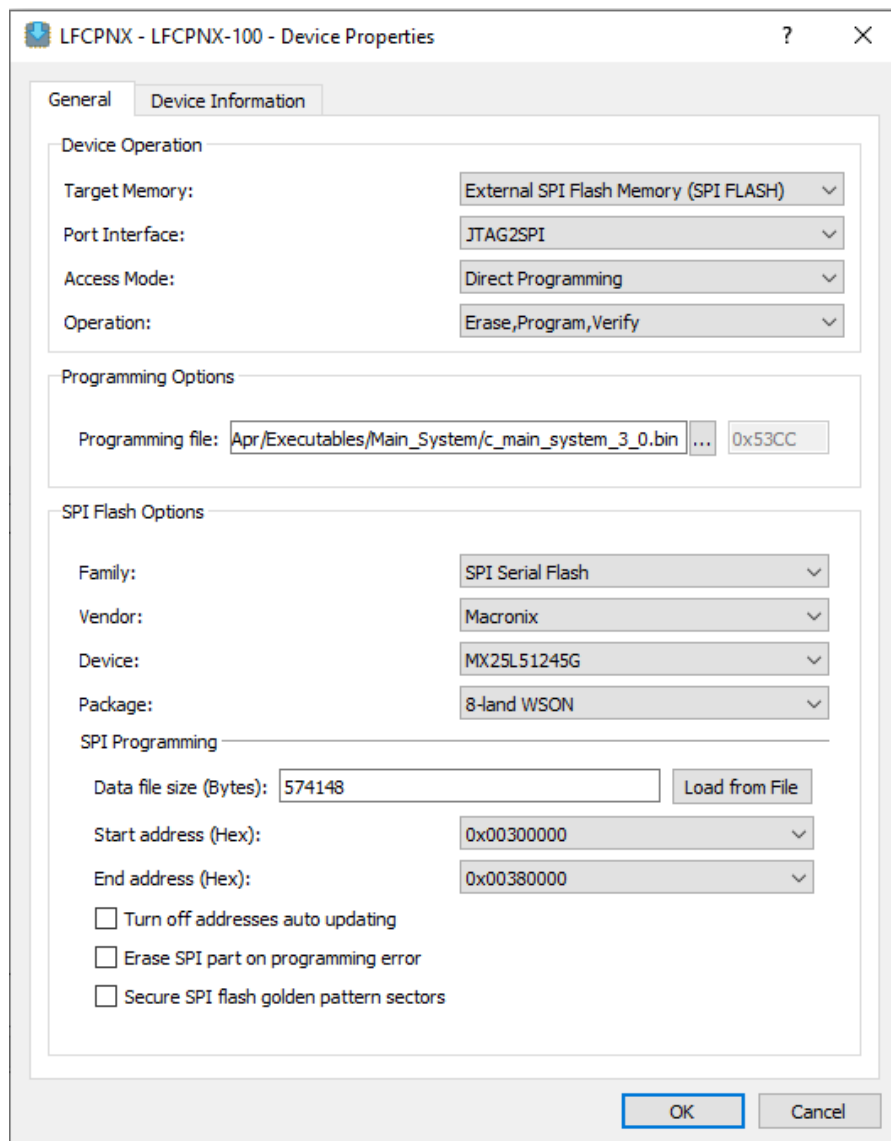

Figure C.5. Radiant Programmer - Quad Mode Programming
9. To program the bitstream file, select the options as shown in Figure C.5.